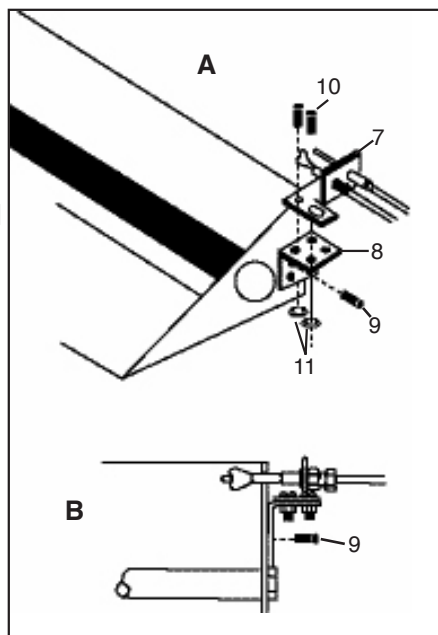

Figure 1
- B. Attach Pilot Bracket (Part #8) to the Burner Pan using one sheet metal screw (Part #9). Install sheet metal screw into top left hole of the bracket (See Figure 1)
- A. Replace the *Natural Gas Orifice (Part #20)* included in the Safety Pilot Kit (Model CVS-303) with the *L.P. Air Shutter Orifice*. This kit contains (2) L.P Air Shutter Orifices, *Part A* and *Part B*. The orifice with the small inner hole is used on the 18" Log Sets. The orifice with the larger hole is used on 24" and 30" log sets. Be sure to attach the short stem on the appropriate *L.P. Air Shutter Orifice* directly to the Burner System for proper operation. (See Figure 1)